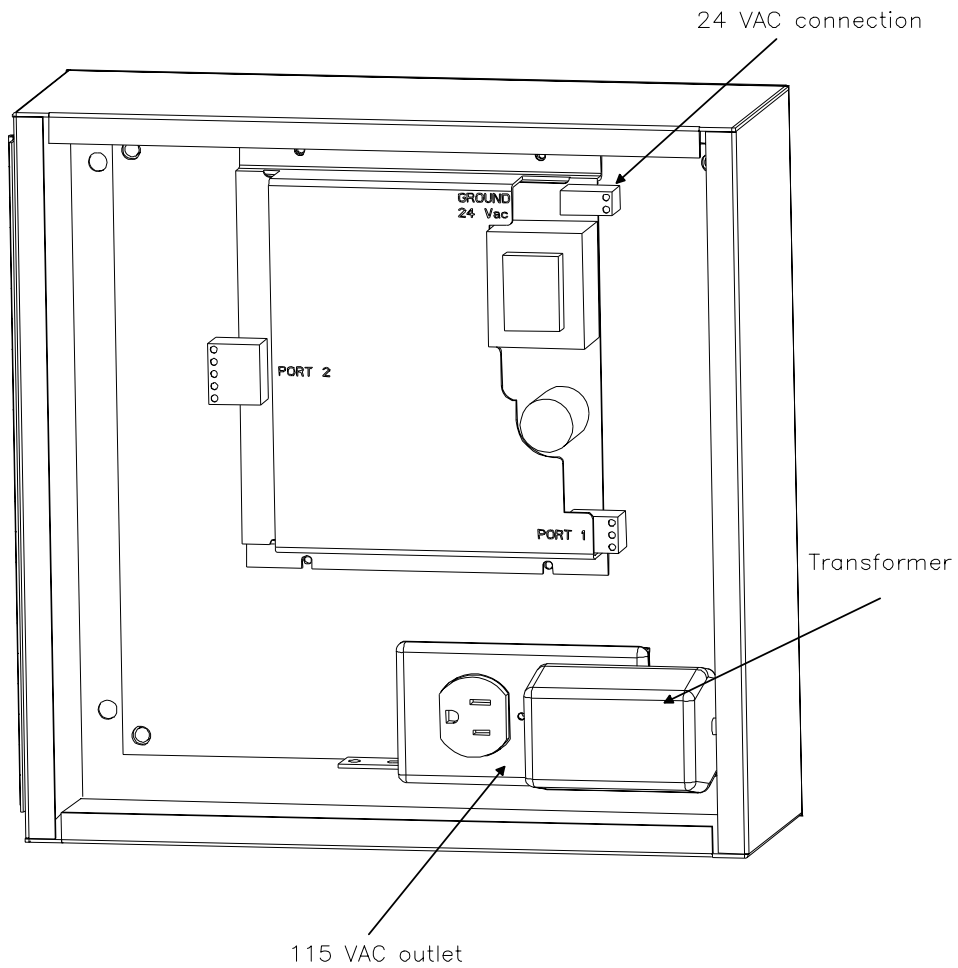

Figure 3. BACnet Portal Enclosure Electrical Components
1. Power must be supplied to the 115 VAC outlet from an external source (see Figure 3).